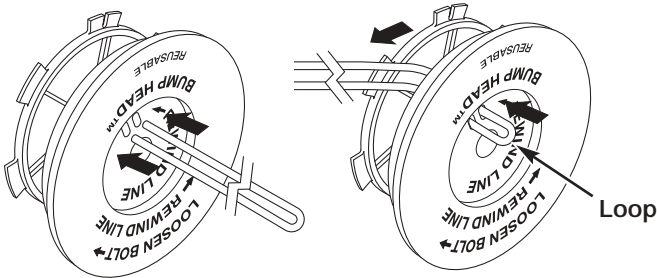

Fig. 15
- Take approximately 18 feet (6 m) of new trimming line, loop it into two equal lengths. Insert each end of the line through one of the two holes in the inner reel (Fig. 15). Pull the line through the inner reel so that the loop is as small as possible.